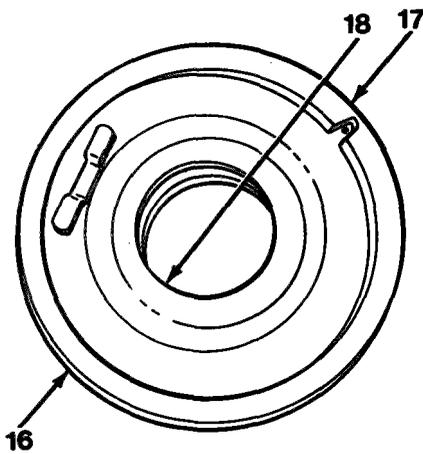

Figure 11-5
18. Install O-ring (18) and new outer piston seal (17) to clutch piston (16, Figure 11-5).